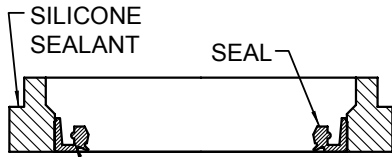

FIGURE 19
10. Install grease seals in bearing retainers. Coat seal lips with grease conforming to ISO 220, NLGI grade 2 or NSF USDA-H1. Coat retainer flanges with silicone sealant. Install retainers. Refer to **Figure 19**.